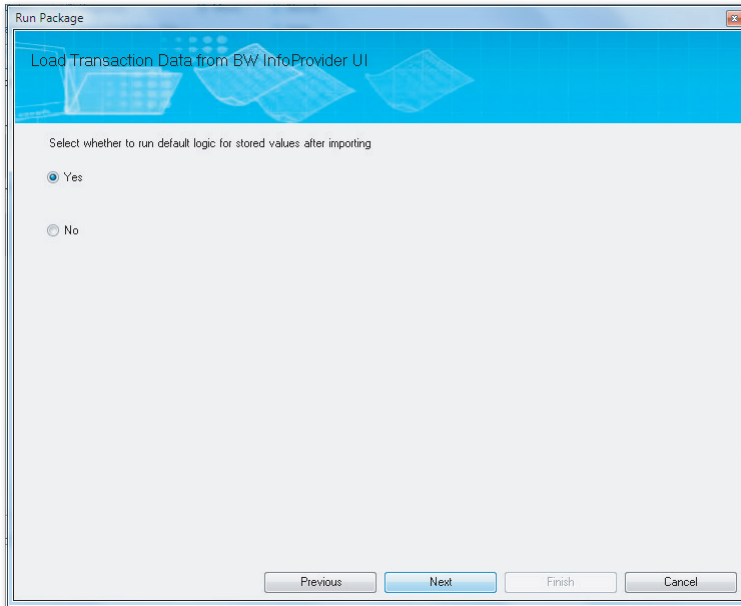

Figure 4.56 Loading Data from an InfoCube into a Model—Part I
10. The option to run default logic can be selected when this Data Manager package is run. We have not included any default logic for our model, so choosing **YES** or **NO** should not matter (Figure 4.56). Click on **NEXT** to proceed to the next step.